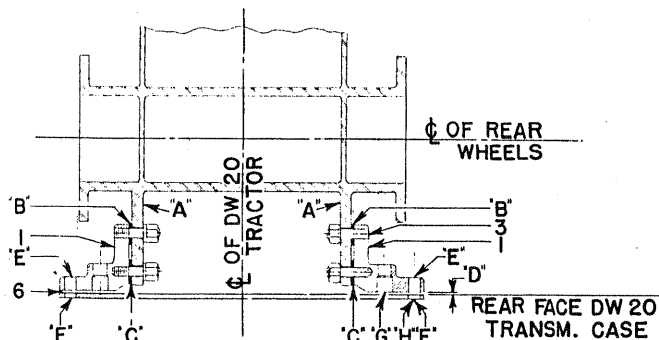

FIG. 2
The bottom of the adapter transmission is fastened by means of studs (3) and brackets (1) to two ears "A" projecting from the bottom of the DW 20 tractor transmission case. (see fig. 2)